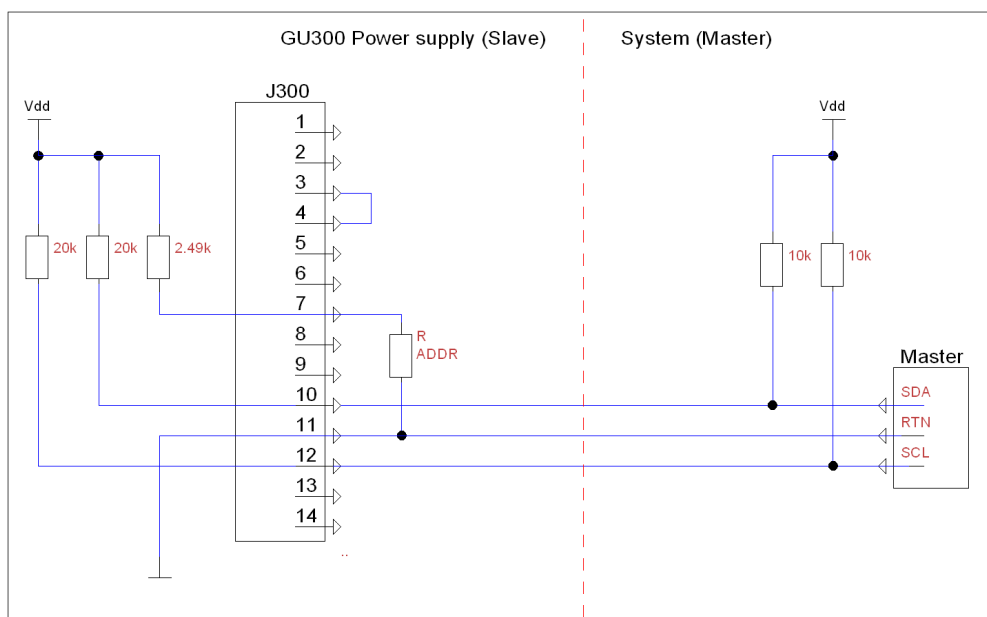

Figure 1: PMBus Master - Slave connection setup
- Ensure correct pull ups to V_{DD} on master – slave communication lines. The power supply (slave) has internal 20kOhm pull up resistors. The recommended values of the pull up resistors on the system side (master) are 10kOhm as shown on figure 1. Be sure not to override the maximum allowed current of 4mA if pull up resistors with other values are used.